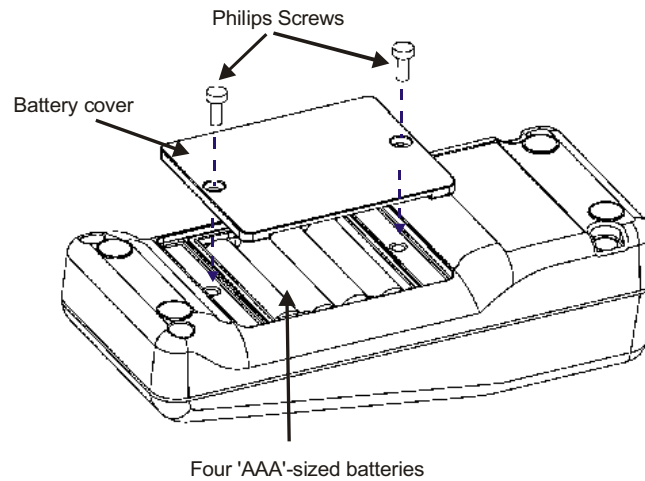

Figure 3: Battery Installation
1. Use a Philips screwdriver to remove the two screws holding the battery cover. See Figure 3.